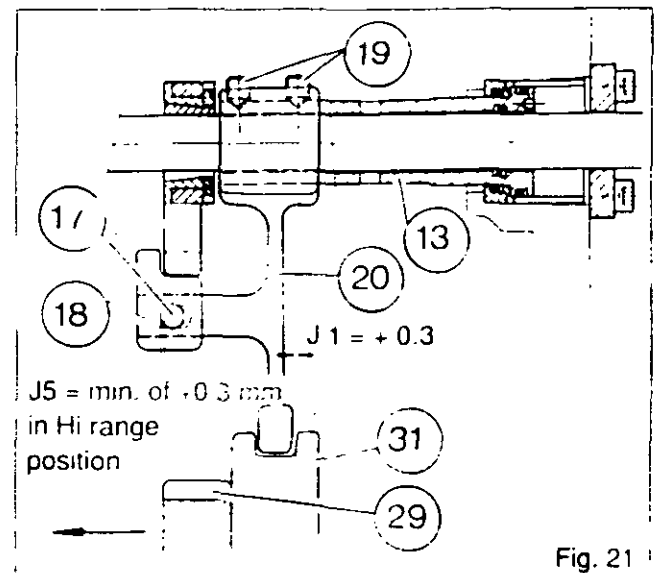
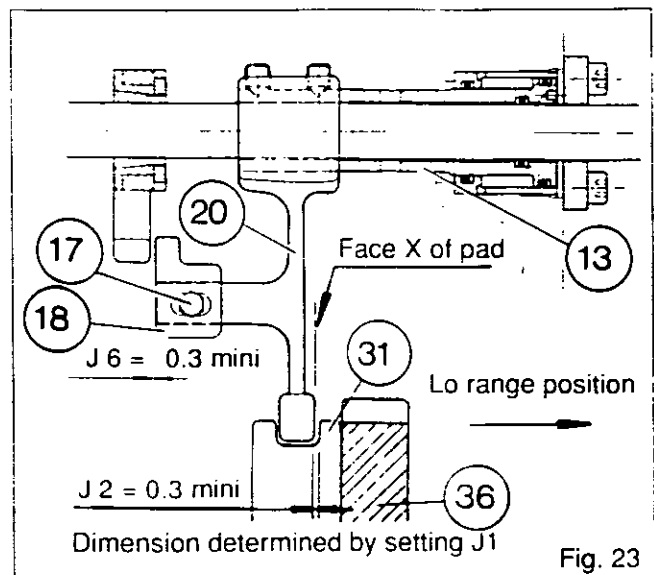
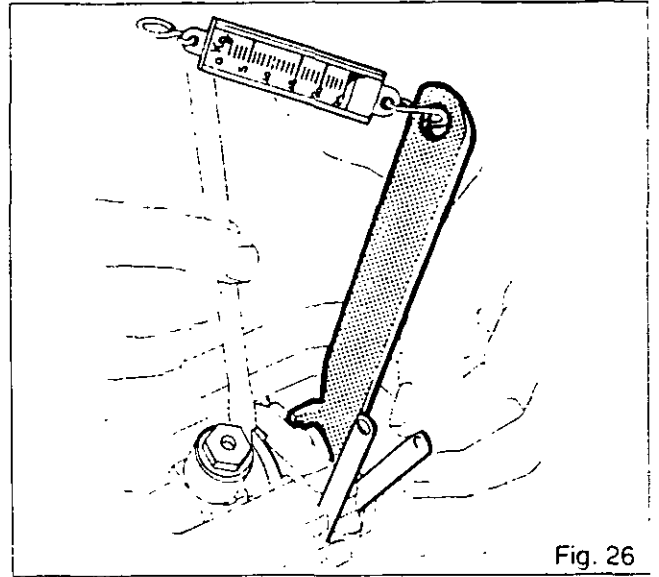

Fig. 21
Fig. 23
Fig. 26
77. Set control piston (13) and coupling ring (31) to the Hi range.
78. Hold the coupling ring pressed against the Hi range gear (29) (Fig.21) (3rd speed in 4 x 2 gearbox, 4th in 4 x 4 gearbox).
79. Having cleaned the two adjusting screws (19) with a solvent and coated them lightly with Loctite 221, use them to adjust the position of fork (20) to set a clearance of  $J1 = 0.3 \text{ mm}$  between the rear face of the pad and the coupling ring (Figs.21 and 22).
80. Set control piston (13) and coupling ring (31) to the Lo (Tortoise) range.
81. Check that there is a clearance of  $J2 = \text{min. of } 0.3 \text{ mm}$  (dimension determined by setting  $J1$ ) between pad and coupling ring with the latter hard against Lo range gear (36) (Fig.23). Tighten the screws to a torque of 35 Nm without disturbing the adjustment.
**N.B.:** In the Lo (Tortoise) position, if face X of the pad on fork (20) is in contact with the coupling ring (Fig.23), increase clearance  $J1$ .
83. Unscrew lock ring (21) slightly.
86. Tighten lock ring (21) to 50 Nm with spanner 3615334 M01 and a spring balance (Fig.26).
87. Apply Loctite 648 to the clamping face of slider (18) and Loctite 648 to bolt (17). Fit the bolt and washer.
88. Adjust the clearances J5 and J6 (min. of 0.3 mm) between the slider and the locking gate to be equal in the Hi and Lo positions (Figs.21, 23, 27 and 28).